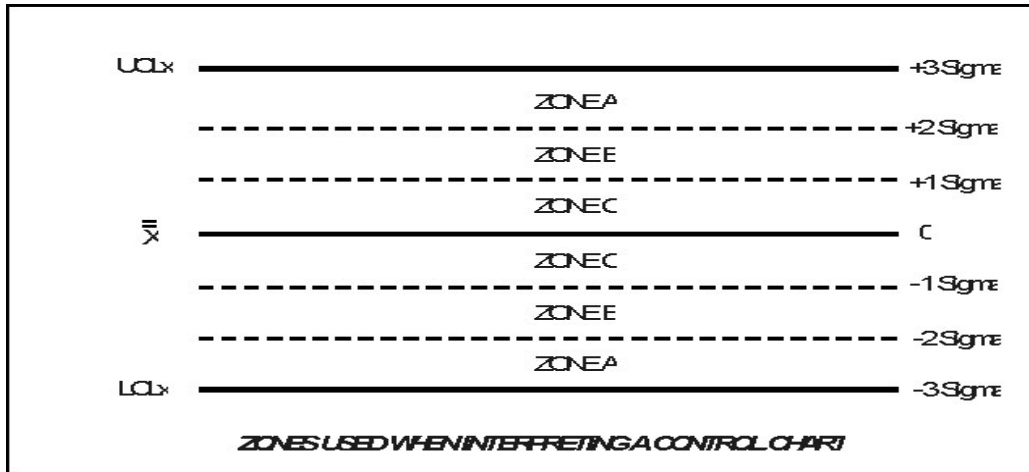

Fig. 2c Zone Chart
- 9/ 2 of 3 Above Area +2 ( See fig.2c ) - Change the relay status if 2 of the last 3 readings taken have been above the Area +2 line. [Zone A]
- 10/ 2 of 3 Below Area -2 ( See fig. 2c ) - Change the relay status if 2 of the last 3 readings taken have been below the Area -2 line. [Zone A]
- 11/ 4 of 5 Above Area +3 - ( See fig. 2c ) Change the relay status if 4 of the last 5 readings taken have been above the Area +3 line.
- 12/ 4 or 5 Below Area -3 - ( See fig. 2c ) Change the relay status if 4 or the last 5 readings taken have been below the Area - 3 line.
NOTE: See appendix for a chart explanation of items 9 thru 12 (for fig. 2c)